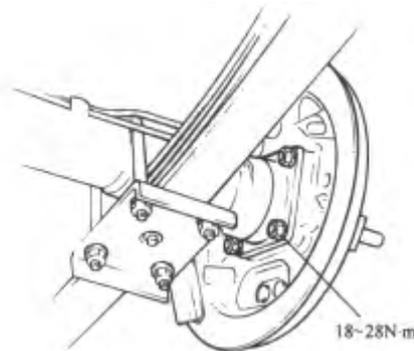

FIG.13-33
(8) Install half-axle into rear axle housing and tighten brake back plate bolt to specified torque.(FIG.13-33)